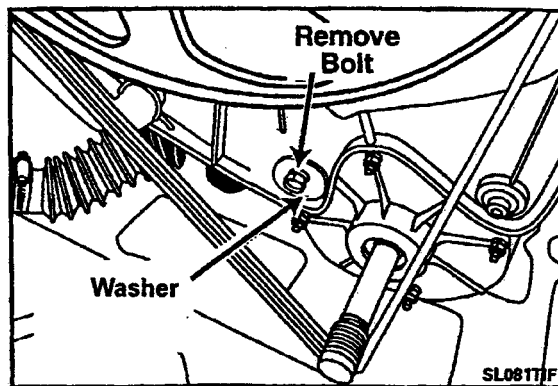

Figure 2-52
3. From the rear, locate and remove the motor mounting bolt securing the washer to the outer tub (*Figure 2-52*).